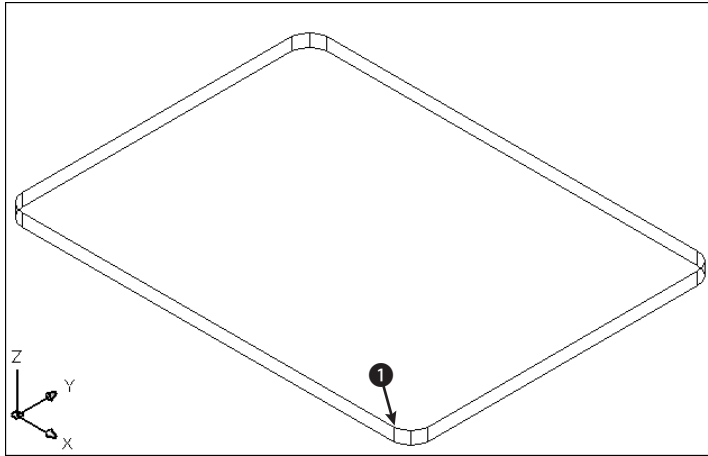

Figure 23-30: The tabletop
2. Save it as `ab23-05.dwg` in your AutoCAD Bible folder. You see a tabletop drawn at a Z height of 30. The current elevation is 30. You are looking at the table from the SE isometric view. OSNAP should be on. Set running object snaps for endpoint, midpoint, and center. The current layer is Const. The drawing is shown in Figure 23-30.
_from Base point: Pick the endpoint at ❶ in Figure 23-30.